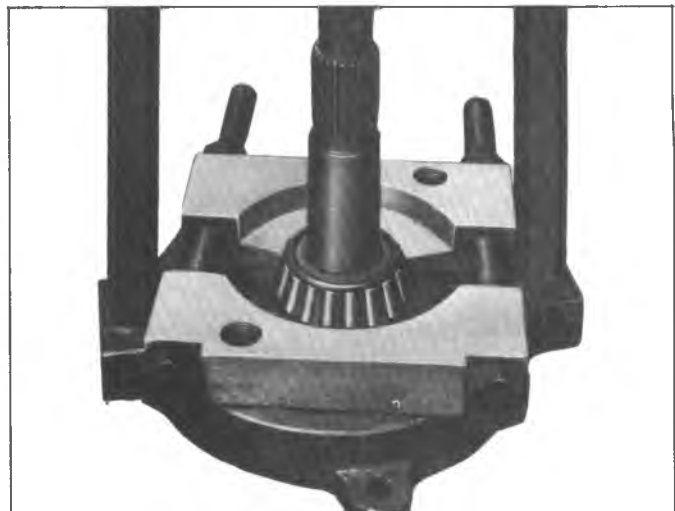

Fig. 18F—Removing Inner Pinion Bearing Cone and Roller
6. Remove inner pinion cone and roller using Tool J-22912, installed as shown in figure 18F, and press pinion from bearing.